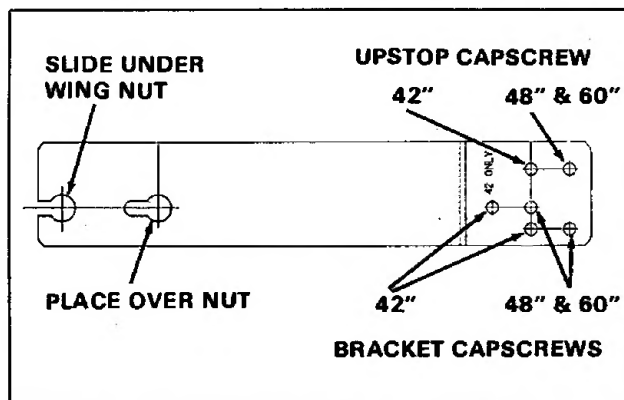

Figure 14. (Typical Bracket Shown)
- Install bracket with two 1/4-20 x 3/4 trusshead screws and 1/4 locknuts. Refer to figure 14 for correct capscrew location for mower size.
- Install upstop (I) with one 1/4-20 x 7/8 capscrew (K), 1/4-20 x 5/8 capscrew (L) and 1/4 locknuts. Note that capscrew (K) goes through bracket. Refer to figure 14 for correct location for mower size.